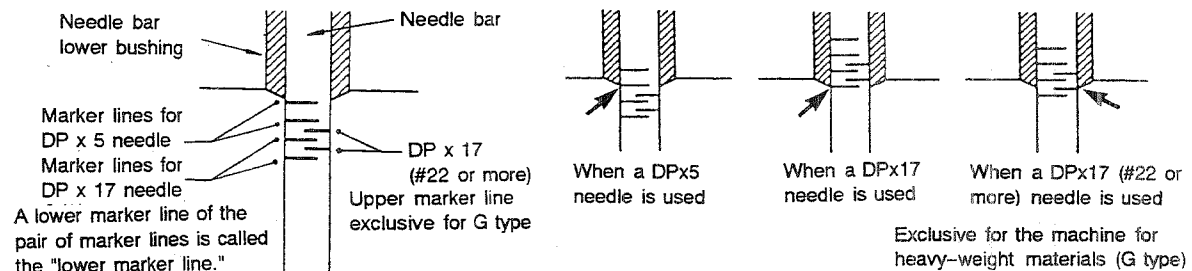
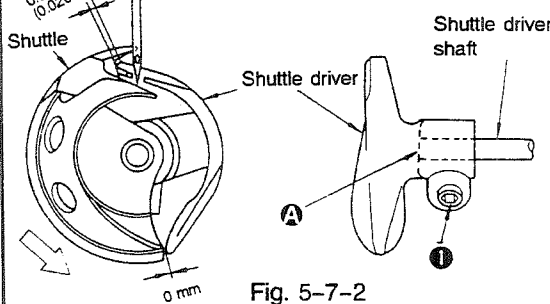
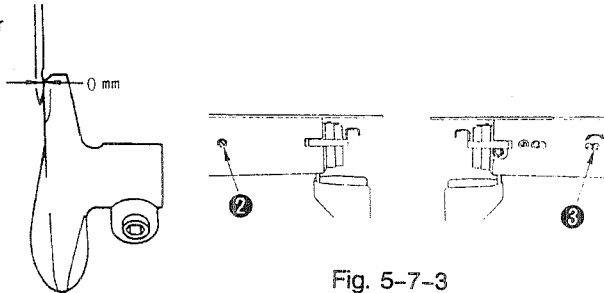

Fig. 5-7-1
Fig. 5-7-2
Fig. 5-7-3
When the needle bar is ascending from its lowest dead point, the lower marker dot engraved on the needle bar meets the bottom end of the needle bar lower bushing. (Fig. 5-7-1)
Under the condition described in step 1) above, the center of the needle meets the blade point of the shuttle. (Fig. 5-7-2)
Under the condition described in step 2) above, there will be no clearance between the needle and the shuttle driver when the end face of the shuttle driver shaft is aligned with side **A** of the driver. (Fig. 5-7-2, Fig. 5-7-3)
The clearance between the shuttle and the shuttle driver is 0.5 (0.020") to 0.7 mm (0.028") (0.6 to 0.8 mm (0.024" to 0.031") for G type). (Fig. 5-7-2)
<p>1) Align the lower marker line with the bottom end of the needle bar lower bushing referring to Fig. 5-7-1.</p> <p>2) Loosen clamping screw ① in the driver. Adjust the direction of rotation of the shuttle (shuttle timing) and the longitudinal direction of the driver referring to Fig. 5-7-2.</p> <p>(Caution) When adjusting the shuttle timing, be sure to turn the shuttle in the direction of the arrow (⇒) as shown in Fig. 5-7-2.</p> <p>3) Loosen lower bushing setscrew ②, and turn lower bushing adjusting shaft ③ to adjust so that there is no clearance between the needle and the front end of the shuttle driver. (Fig. 5-7-3) After the adjustment, tighten screw ②.</p> <p>(Caution) If the needle needs to be replaced according to a change in the type of needle, be sure to adjust the clearance between the needle and the shuttle driver. Since there are bound to be bent or damaged needles, be sure to check the shuttle timing after a needle has been replaced.</p> <p>4) Loosen screw ④ in the shuttle race, and adjust the clearance provided between the needle and the blade point of the shuttle by turning adjusting shaft ⑤.</p> <p>5) Loosen screw ⑥ in the shuttle race, and adjust the clearance provided between the needle and the shuttle race. Adjusting the clearance between the needle and the blade point of the shuttle as described in 4) will change the clearance between the needle and the shuttle race. So be careful. [When sewing with a thin type of thread such as #50 or a greater count, be sure to adjust the clearance so that it is *7.0 (0.276") to 7.3 mm (0.287") after the standard adjustment of the position of the shuttle race spring has been completed.]</p> <p>(Caution) 1. Strike portion ⑦ to adjust the clearance between the shuttle and the shuttle driver to 0.5 (0.020") to 0.7 mm (0.028") (0.6 to 0.8 mm for the G type) as shown in Fig. 5-7-2. After making the adjustment, be sure that portion ⑧ is positioned equidistantly (clearance ⑨ and ⑩ should be equal) and vertically with respect to the shuttle. (For the G type, adjust so that an approximately 1 mm clearance is provided at section ⑪.)</p> <p>2. Whenever you have adjusted the clearance between the needle and the blade point of the shuttle as described in 4) and the clearance between the needle and the shuttle race as described in 5), adjust the position of the shuttle race spring as described in "Standard adjustment (6)." (Note that the aforementioned case explained in the brackets [] is excluded.)</p>	<p>1), 2) For sewing floppy material, adjust the shuttle timing so that it is slightly later than the standard shuttle timing. On the other hand, for sewing heavy-weight material, adjust the shuttle timing so that it is slightly faster than the standard timing (to prevent stitch skipping.)</p> <p>3) If the clearance is more than 0 mm, the needle will be bent by the blade point of the shuttle, resulting in scratches on the blade point of the shuttle and the needle. On the other hand, if the needle has excessive contact with the shuttle driver, stitch skipping may occur.</p> <p>4) If the clearance exceeds the specified range (0.01 (0.0004") to 0.06 mm (0.002")), stitch skipping may occur. If the clearance is inadequate, the needle will hit the blade point of the shuttle, causing scratches on the needle and the blade point of the shuttle. The scratches may cause the thread to break or split finely.</p> <p>5) If the clearance is less than 7.5 mm (0.295"), poor needle thread spreading may result, often leading to the needle thread biting into the shuttle. [When sewing with a thinner type of thread, such as #50 or a greater count, adjust the timing between the needle and the shuttle race so that it is 7.0 (0.276") to 7.3 mm (0.287") (the clearance marked with an asterisk *). Otherwise, the thread easily bite into the shuttle.]</p> <p>○ If the clearance between the shuttle driver and the shuttle exceeds the specified range (0.5 (0.020") to 0.7 mm (0.028")) (0.6 to 0.8 mm for the G type), the shuttle will produce loud noises. On the other hand, if the clearance is inadequate, the needle thread will fail to smoothly leave the shuttle resulting in an inadequately tensed stitch formation, when sewing with a thick thread.</p> <div data-bbox="901 1690 1193 1953" data-label="Image"> </div> <p style="text-align: right;">Fig. 5-7-6</p>